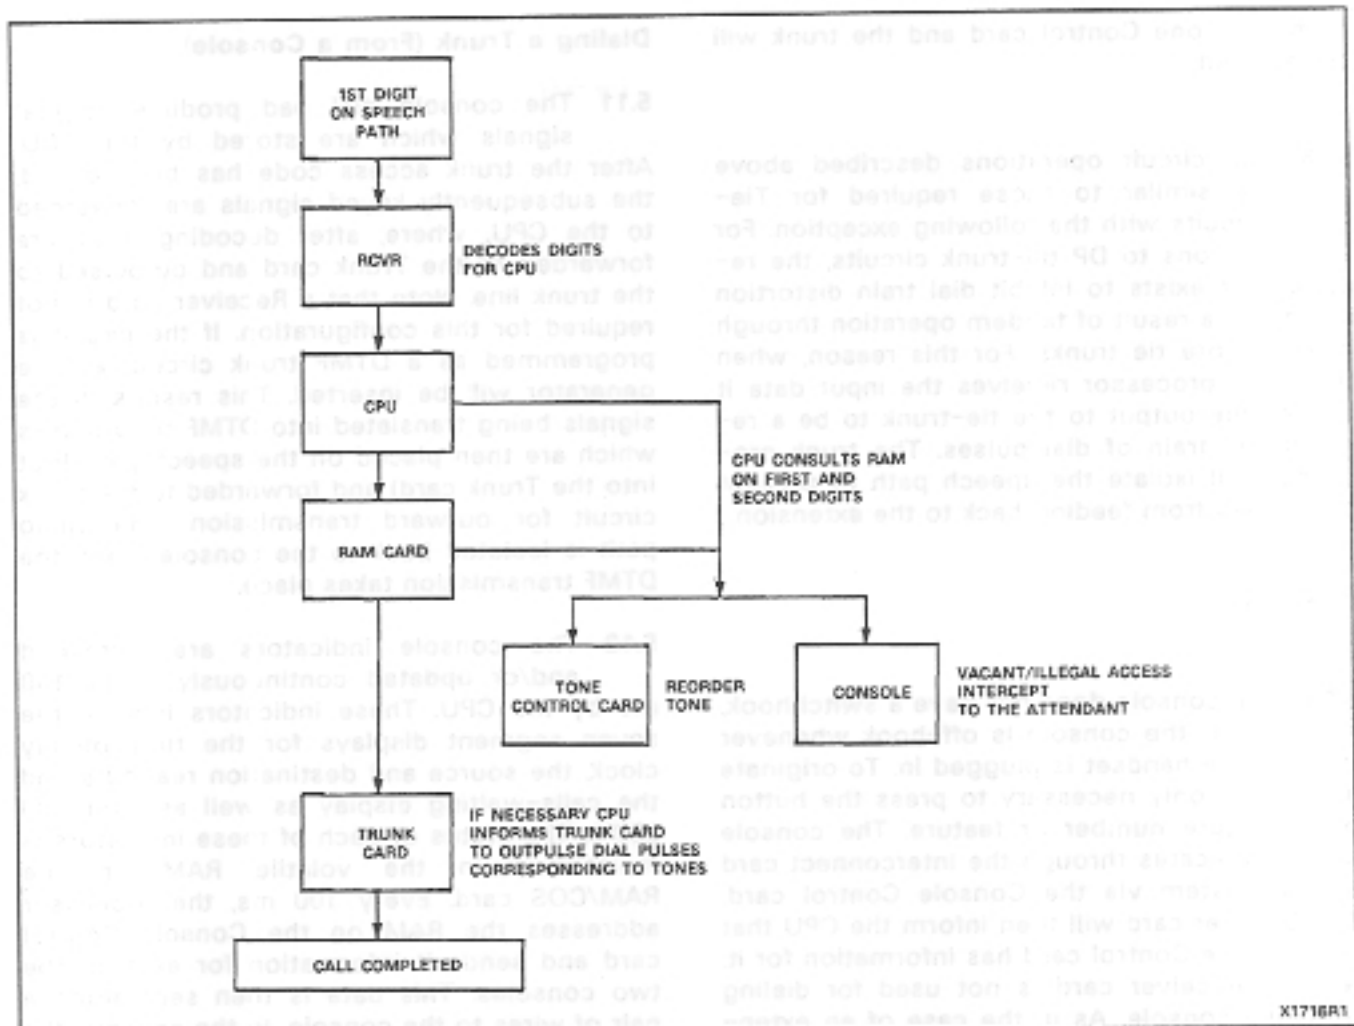

Fig. 5-4 Outside Call 0 and 1 Dialing Restriction
5.06 If the call is an outside call (Fig. 5-4) with digits 0, 1, #, or * dialing restriction, the extension must be assigned a speech path (paragraph 5.02). The CPU will then locate a free trunk corresponding to the access code dialed (see Section MITL9105/9110-096-205-NA). If there is not a free trunk the CPU will connect busy tone (from the Tone Control card) to the speech path. The receiver will decode the first and second digit dialed into the trunk if System Option 291 (First Digit Toll Deny) is selected; only the first digit is monitored on the trunk. The CPU will then decide if the digit that has been decoded is a 0, 1, #, or *. If it is, then reorder tone (from the Tone Control card) will be supplied to the